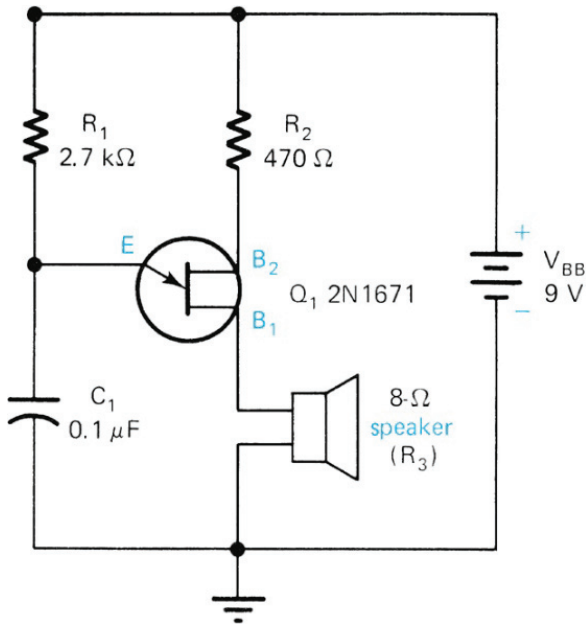

Figure 20.15 UJT oscillator.
Figure 20.14(a) shows a circuit diagram of a **Wien-Bridge oscillator**. The positive-feedback path of this circuit contains two RC networks. R_1 and C_1 are connected in series forming a high-pass filter, which has a **cutoff frequency** (f_c) of $\frac{1}{2\pi R_1 C_1}$. R_2 and C_2 are connected in parallel, forming a low-pass filter, which has a cutoff frequency (f_c) of $\frac{1}{2\pi R_2 C_2}$. These two filter circuits are then connected in series, thereby forming a band-pass filter. The resonant frequency of the band-pass filter determines the oscillating frequency of the circuit. Open simulation file Sim_20.15 which refers to **Figure 20.15**. Turn on the simulation and evaluate its operation.
Typically, $R_1 = R_2 = R$ and $C_1 = C_2 = C$, so that $R_1 \times C_1 = R_2 \times C_2 = R \times C$, so that both the low-pass and the high-pass filter sections have the same cutoff or critical frequency (f_c) of $\frac{1}{2\pi RC}$. This is shown in **Figure 20.15(b)**. The critical frequencies of the individual filters are combined to determine the resonant frequency (f_r) of the **band-pass filter** as follows:
Refer to the Wien-Bridge oscillator shown in **Figure 20.15(a)**. Calculate the resonant frequency of the oscillator assuming $R_1 = R_2 = R = 25 \text{ k}\Omega$, and $C_1 = C_2 = C = 0.05 \text{ }\mu\text{F}$.
Refer to the Wien-Bridge oscillator shown in **Figure 20.15(a)**. Calculate the resonant frequency of the oscillator assuming $R_1 = R_2 = R = 50 \text{ k}\Omega$, and $C_1 = C_2 = C = 0.005 \text{ }\mu\text{F}$.
A **UJT** is used in the relaxation oscillator of **Figure 20.15**. The **RC network** is composed of R_1 and C_1 . The junction of the network is connected to the emitter (E) of the UJT. The UJT will not go into conduction until a certain voltage value is reached. When conduction occurs, the emitter-base 1 (E-B₁) junction becomes low resistant. This provides a low-resistant discharge path for C_1 . Current flows through R_3 only when the UJT is conducting. R_3 refers to the resistance of the speaker in this circuit.
Capacitor C_1 eventually charges to a voltage value that causes the E- B_1 junction to become conductive. When this point is reached, the E- B_1 junction becomes low resistant. C_1 discharges immediately through the low-resistant E- B_1 junction. This action removes the forward-bias voltage from the emitter. The UJT immediately becomes nonconductive. C_1 begins to charge again through R_1 . The process is then repeated continuously as shown in **Figure 20.15**.
Refer to the UJT oscillator shown in **Figure 20.15**. The capacitor $C_1 = 0.1 \mu\text{F}$ is charged through the resistor $R_1 = 2.7 \text{ k}\Omega$ when the UJT is off. When the UJT is triggered into conduction, capacitor C_1 discharges through the speaker that has a resistance (R_3) of 8Ω . Calculate the charging and discharging times. Assume that $\eta = 0.56$.
Refer to the UJT oscillator shown in **Figure 20.15**. After the UJT has been triggered into conduction, capacitor C_1 discharges through the $10\text{-}\Omega$ speaker resistance. Calculate the time needed to discharge the capacitor fully, assuming that it has already been charged to $V_P = 6.3\text{ V}$.